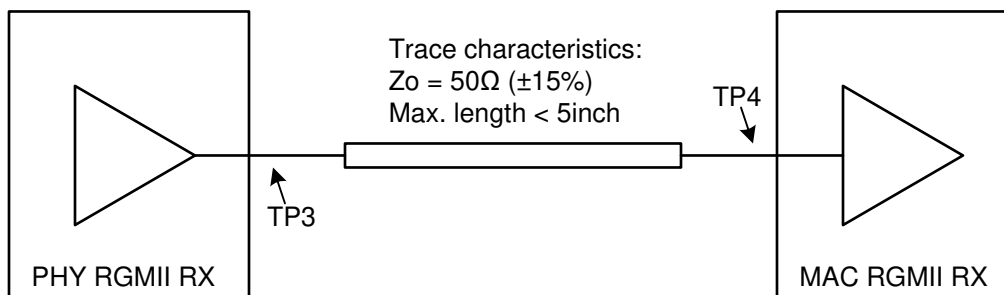

FIG 7-3. RGMII RX Requirements
- No damping resistors should be added at TP3/TP4, in FIG 7-3, as that will impact signal integrity of RX signals.
- FIG 7-3 shows a RGMII interface requirements for RX* signals. MAC RGMII driver output impedance should be 50Ohm+/-20%.
- Signal Integrity at TP3 and TP4, in FIG 7-3, should be verified with IBIS model simulation and ensured conformance to following requirements: